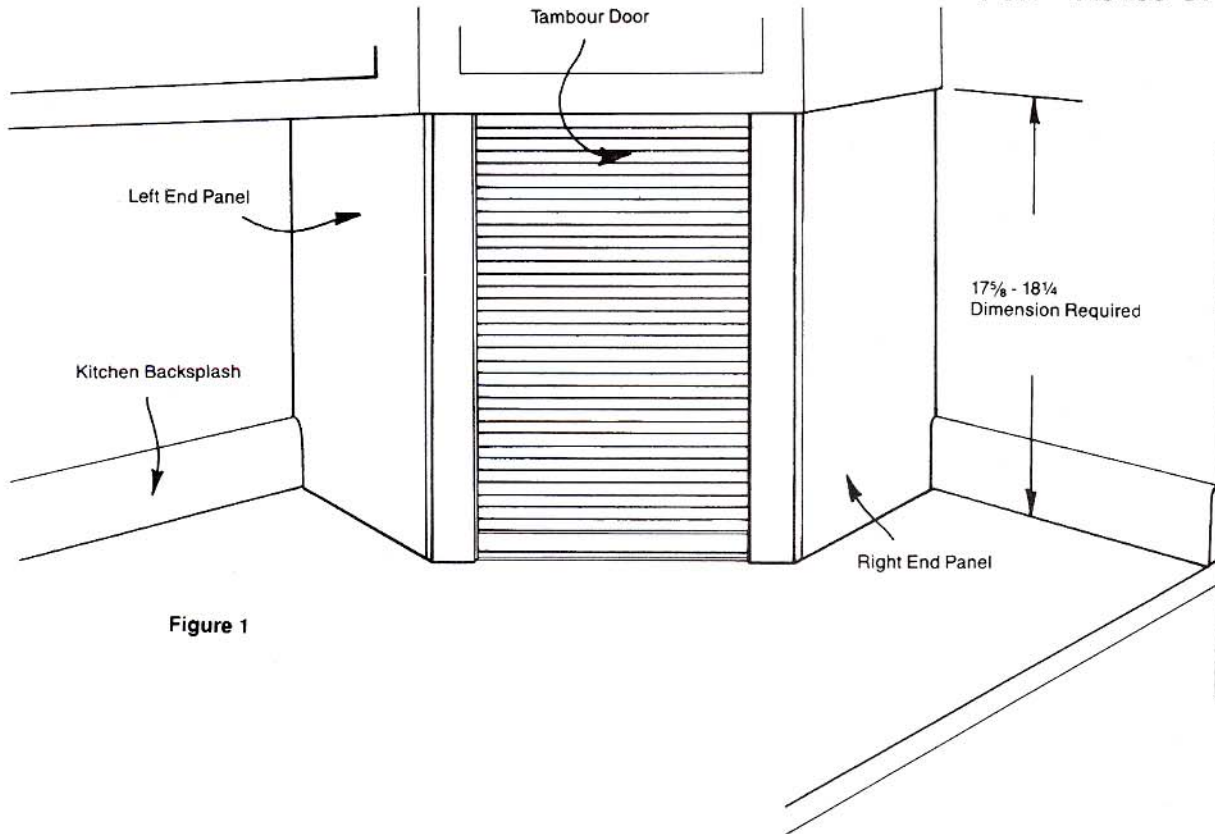
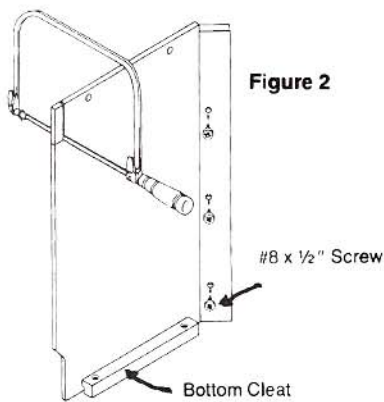

Figure 1
Figure 2
Step #2 – If your countertop has a backsplash, the bottom rear corner of both end panels must be notched to fit over it. Measure and transfer the backsplash dimensions to each end panel. The bottom of the panel may be identified by cleats which are attached. Cut the notches with a fine-toothed coping saw. (See figure 2) Then, notch the top of each panel to fit the bottom edge of the existing cabinet. (See Figure 1)
Step #3 – Start three (3) #8x1/2" screws into predrilled holes (shown at right end stile in Figure 2) in right end panel. Do not start screws in left end panel.
Step #10 – Insert ends of spacer bar between plastic tracks as you inserted the door previously. With spacer in place, tilt tambour assembly into cabinet. (See Figure 6) Position right hand plastic track under heads of the three (3) screws previously started and fasten securely. (See Figure 2)